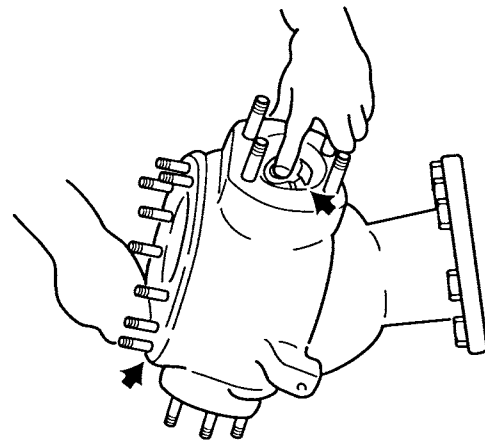

Figure 12 Removing Ball Socket
15. Holding the upper trunnion bearing cone upward, tip the ball socket housing and maneuver the bearing cone from the axle ball. (See Figure 12).